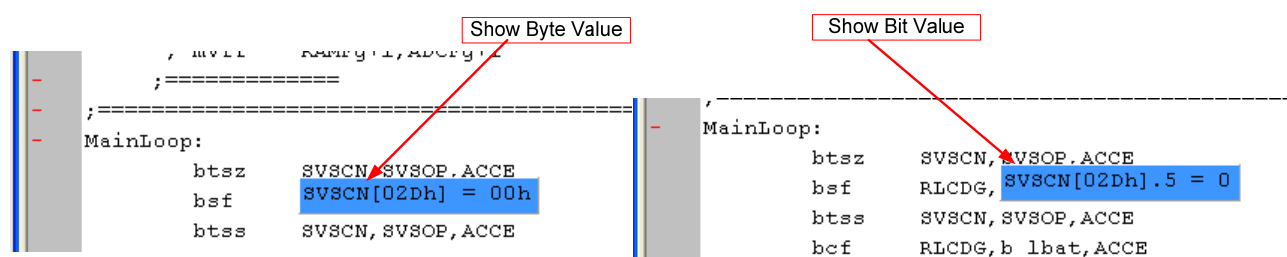

Figure 3-47
- When command is BCF, BSF, BTSS, BTSZ and BTGF, Byte value will be revealed if the cursor points to the first argument. If the cursor points to the second argument, it will display the specified Bit value (1 or 0) as Figure 3-47 illustrated.